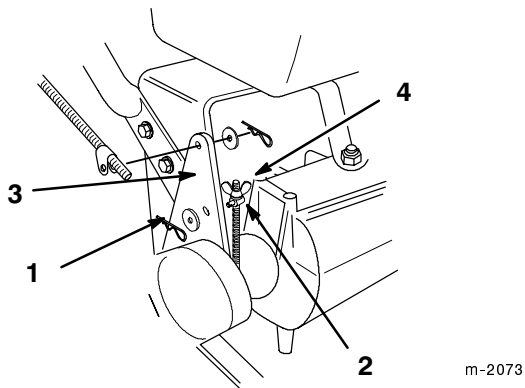

Figure 18
3. Remove the cotter pin and washer from the brake lever (Fig. 18).
4. Rotate the wing nut so the trunnion smoothly slides into the brake lever (Fig. 18).
5. Secure the trunnion to the brake lever with the washer and cotter pin (Fig. 18).